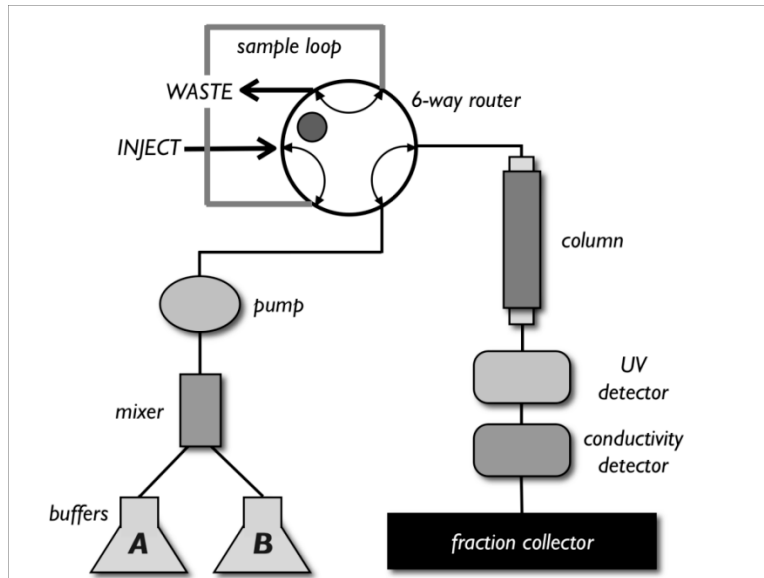
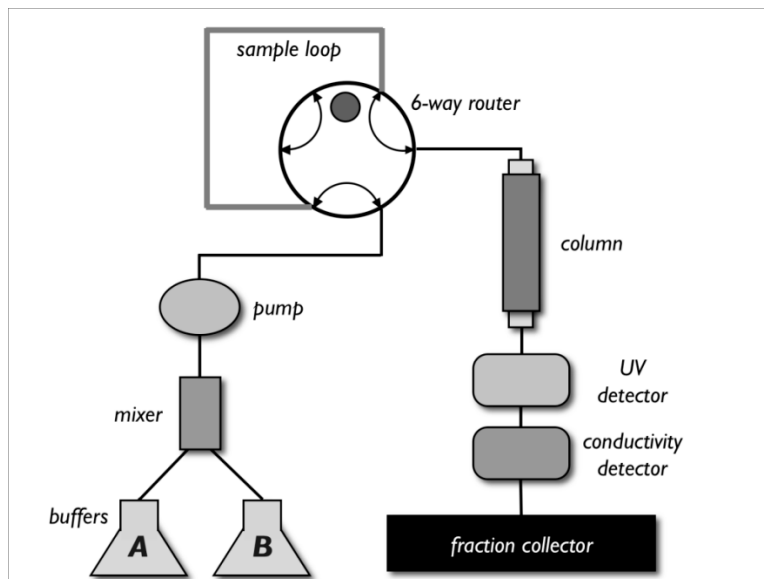

FIGURE 1 - Sample-loading configuration. The router is in the counterclockwise position.
FIGURE 2 - Sample-injection configuration. The router is in the clockwise position.
3. A 6-way router that controls whether the *mobile phase* flows through the sample loop. In one configuration of the router, the sample loop is detached from the LP system flow (Figure 1). In a second configuration, the mobile phase flows through the sample loop before passing through the column (Figure 2). The router contains the *injection* port, through which sample is added to the sample loop.
You will now pack the ion exchanger into the column using flow. Be sure the LP system is in its sample-loading configuration (Figure 1) before continuing. Specifically, make sure the 6-way router is in the appropriate position (rotated counterclockwise). The system should always be stored in the sample-loading configuration when not in use. Carefully review the entire protocol before starting, since some steps must be performed quickly.
11. Disconnect the other set of male-female luer connectors, and attach the female connector to the bottom of the column. The system is now in its *sample-loading* configuration (Figure 1).
2. Put the system in the *sample-loading* configuration (Figure 1). Make sure the 6-way router is in the counterclockwise position. Place the column in a stand, checking that it is completely upright and vertical. Place the stand on the LP system platform, and place lines A and B in their buffers.
4. Start a 3 ml/min flow of buffer A. Disconnect the female-male luer connectors adjacent to the 6-way router (Figure 1). Buffer will drip from the female connector.
8. Disconnect the other set of male-female luer connectors (Figure 1), and attach the female connector to the bottom of the column. The system is now in its *sample-loading*
configuration (Figure 2). You have now attached the column to the LP system flow without introducing air into the column bed.
Load sample into the sample loop by following the steps below. In the system's sample-loading configuration, the sample loop path is completely detached from the LP system's flow (Figure 1). When sample is injected through the *injection* port of the 6-way router, liquid in the sample loop exits to the *waste* port. Thus, sample can be loaded into the loop while the column is still being equilibrated. An 8 ml sample loop is provided. To prevent introduction of air onto the column, always overfill the loop. This is especially important because the 6-way router and the luer connections to the sample loop add additional volume to the sample loop path. Thus, for the 8 ml sample loop, plan on loading 9 ml of sample. As you load the sample, it may be difficult to tell when the loop is filled and when sample has begun to enter the waste line. To make this easier, before injecting the sample, use an empty syringe to push air into the loop. This clears out any liquid and makes it easier to see when sample has completely filled the loop. If you would like to make a different volume sample loop, calculate the length of Tygon tubing required for your desired volume.  $\text{Volume} = [\text{tube-length (cm)}] * [\text{Volume/cm}]$ .  $\text{Volume/cm} = 0.020 \text{ ml/cm}$  for the tubing provided to you. Cut the tubing, and attach male luers to each end. Label the volume of the loop so that others can use it.
2. Remove all air from the syringe, and screw it to the *injection* port of the 6-way router (Figure 2). Slowly depress the plunger. Fill the loop with sample until sample can be seen exiting the *waste* port. Do not depress the syringe completely, or you may accidentally introduce air into the loop. Leave the syringe attached to the router for the remainder of the protocol.
6. Once the sample is injected, switch the router back to the *sample-loading* configuration by rotating counterclockwise (Figure 2). It is not necessary to stop the flow. Though you will not affect the sample elution if you forget to do this, you will add an additional 9 ml of volume to your LP system, thus increasing the length of time to complete the anion exchange chromatography protocol.
1. Remove the column from the LP system by disconnecting the male-female luer connections at either end of the column. To the two detached female connectors, reattach the small length of tubing with male luer connectors at its ends. Your system will now be back in its sample-loading configuration (Figure 1).